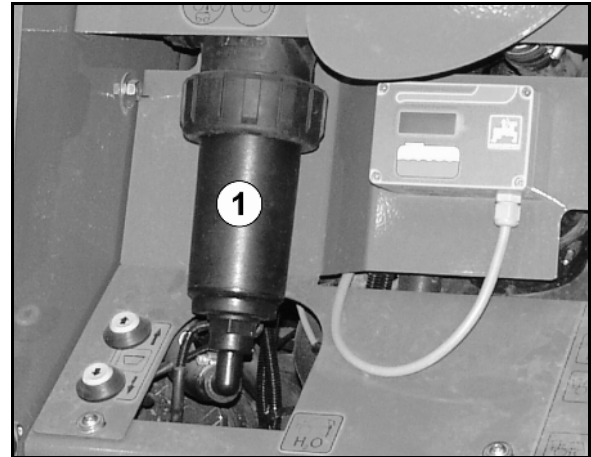

Fig. 129
2. Remove the pressure filter (Fig. 129/1) and clean with water.
4. Remove the pressure filter (Fig. 129/1) and clean with water.